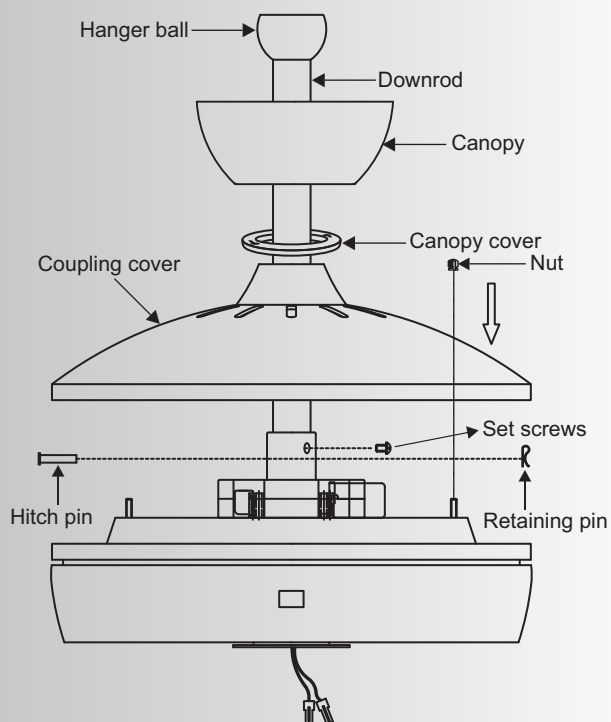

Fig. 10
Step 10. Slip the coupling cover, canopy cover and canopy onto the downrod. Secure the coupling cover to the motor housing using the two nuts previously removed. (Fig. 10)